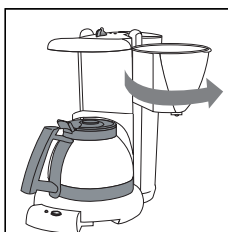

fig. 5
- Open the filter holder door by pulling it to the right (fig. 5).